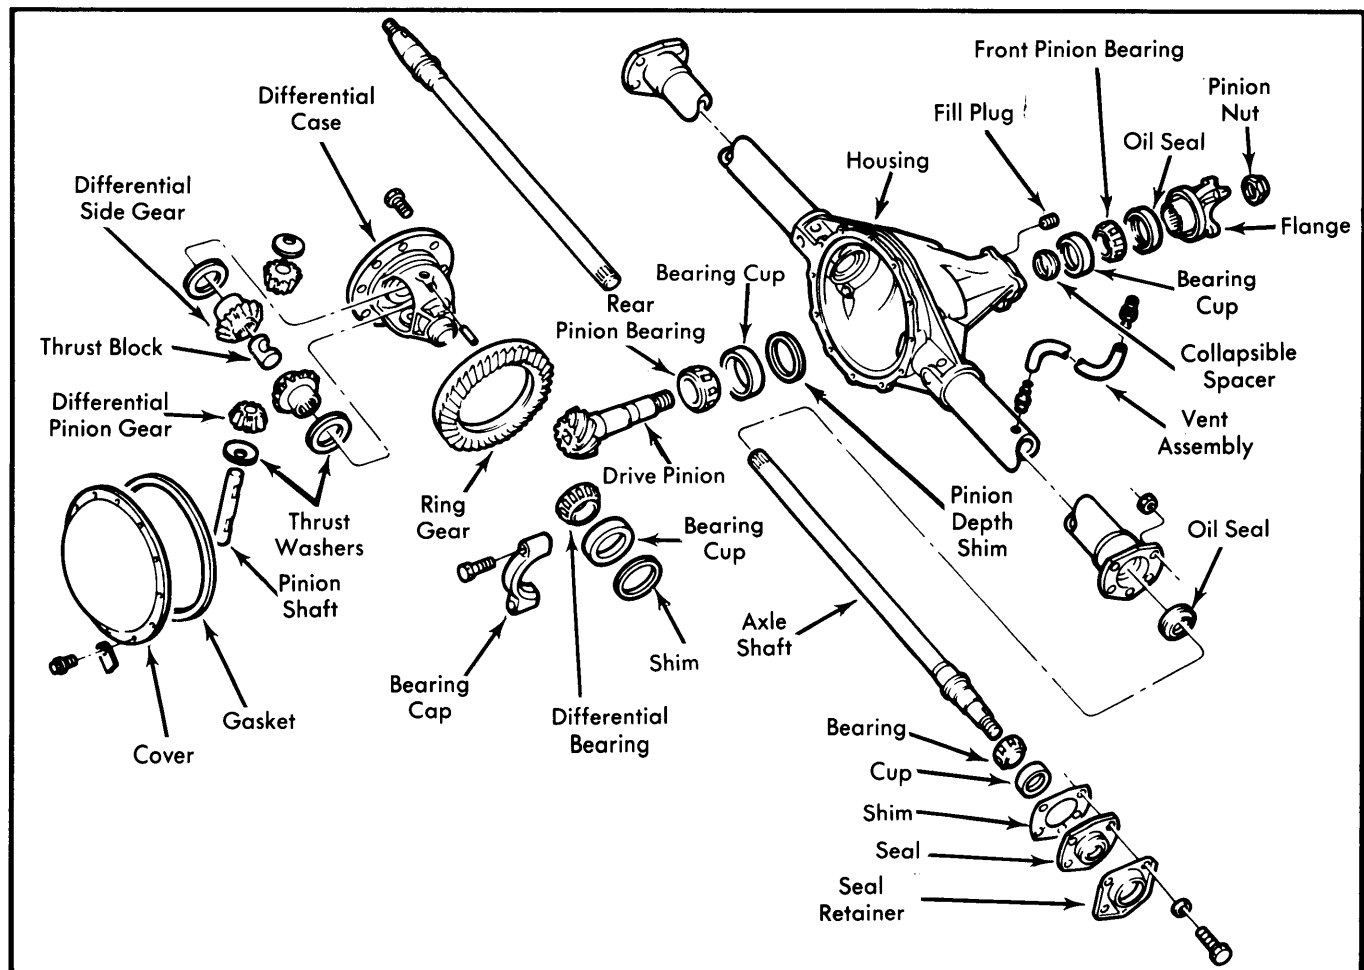

Fig. 3 Exploded View of Drive Axle Assembly
1) Remove axle shaft dust caps and retaining nuts. Raise and support vehicle. Remove axle housing cover and drain lubricant. Remove axle hubs as previously outlined. Mark differential side bearing caps with a center punch for reassembly. Loosen bearing cap bolts until they are retained by just a few threads, then pull bearing cap back on bolts. This will prevent differential from falling out. Pry differential loose in housing. Now remove bearing caps and differential. Secure bearing shims to their respective bearing caps and cups. See Fig. 3.